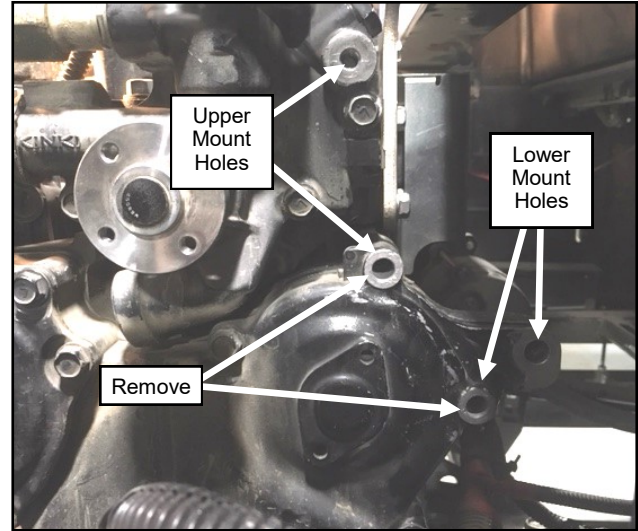
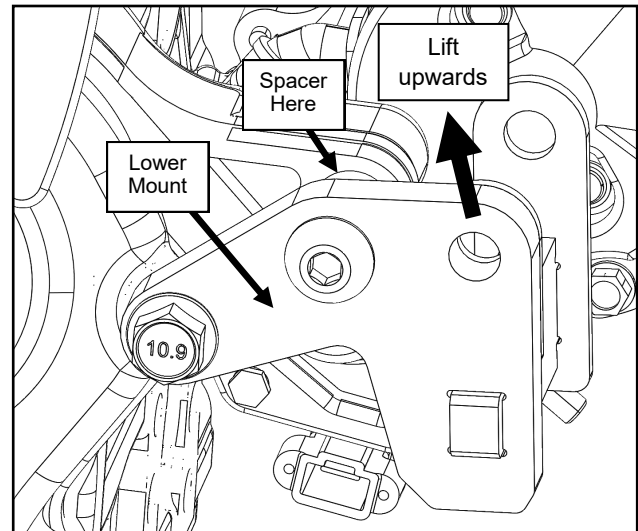

Fig. 3.1 (Alt Bracket Holes)
Fig. 3.2 (Lower Mount Weldment)
- 3.1 Remove two bolts from the cover as shown in Figure 3.1. With Scotch-Brite Pad, remove rust from non-painted surfaces on the mounting surfaces.
- 3.2 Install Lower Alternator Mounting Weldment with Spacer (.630" lg.) onto engine block. See figures 3.1 and 3.2. With the bolts loose, lift the alternator mounting hole upwards as shown in Figure 3.2 to remove all slack and tighten the bolts to the following torque; 10mm BHCS 34-40 ft-lb (46-54 Nm) and 8mm Flange Bolt 20-26 ft-lb (27-35 Nm).
- 3.3 Install Upper Alternator Mounting Weldment w/ Adjustment Plate onto engine block per figures 3.1 and 3.3. Do not tighten 3/8-16 Flange Bolt fully at this time. Tighten M8 bolts to the following torque; 8mm Flange Bolt 20-26 ft-lb (27-35 Nm) and 8mm BHCS 17-22 ft-lb (23-30 Nm).